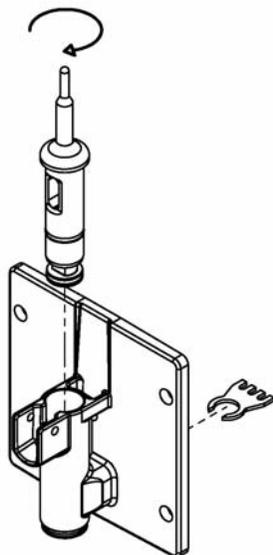

Figure 3-4 Spigot and Ice Breaker Bar Removal
- I. Turn the spigot body until the ice breaker bar can be removed. Remove breaker bar (Refer to Figure 3-4).